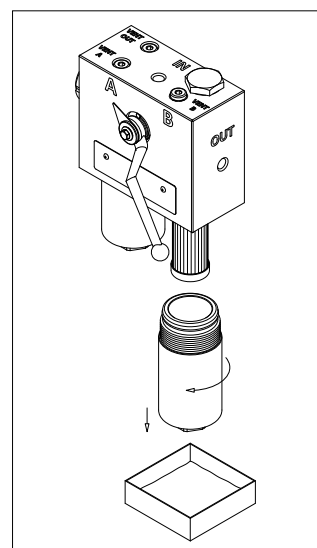

fig. 23
- (Fig. 23) Unscrew the filter bowl while keeping the collection vessel